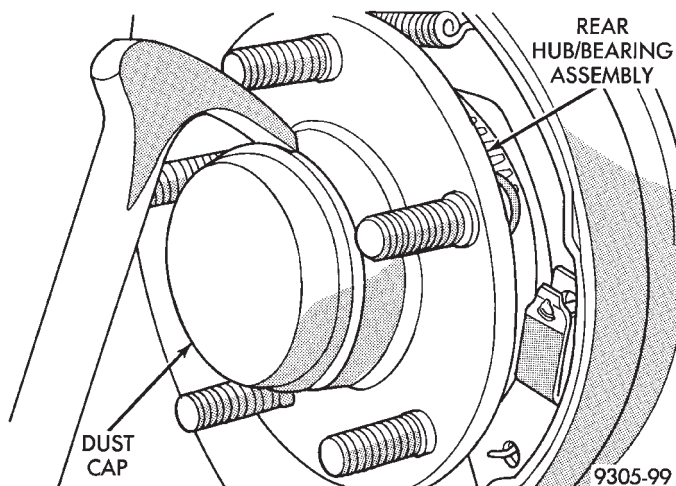

Fig. 142 Hub/Bearing Dust Cap
(1) Raise vehicle using a frame contact type hoist or correctly jack up the vehicle and support it vehicle using jack stands. See Hoisting in the Lubrication And Maintenance Group of this service manual for the required lifting procedures to be used for this vehicle.
(2) Remove the rear wheel and tire assembly from the side of the vehicle requiring service to the park brake cable.
(3) Remove rear disc brake caliper from adapter and rotor. Then remove the rotor from the hub.
(4) Remove dust cap from rear hub/bearing assembly (Fig. 142).